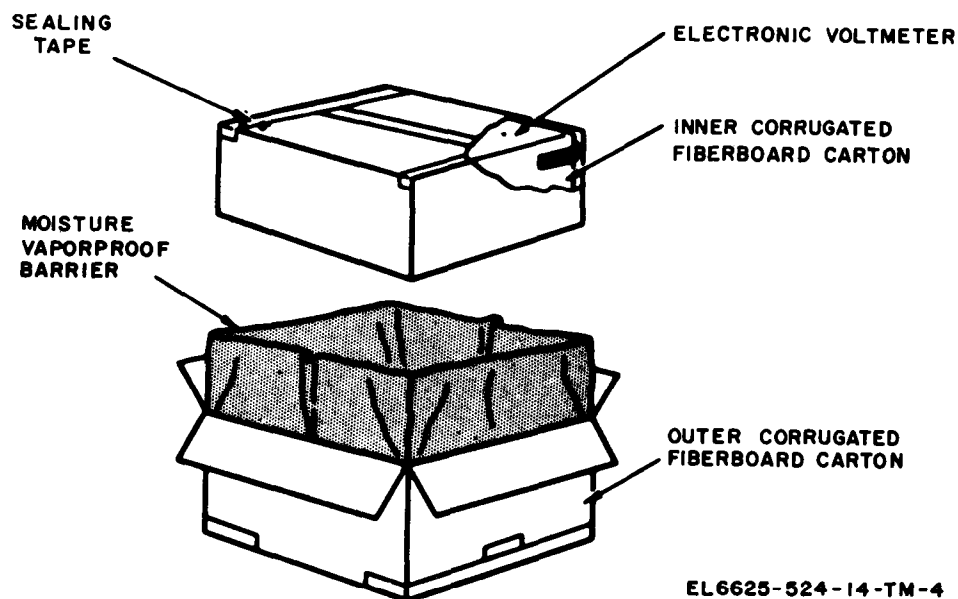

Figure 2-1. Typical packaging diagram.
*a. Packaging Data.* When packed for shipment, Voltmeter, Electronic A-N/URM - 145B is placed in a waterproof carton and packed in a corrugated cardboard box. A typical packing case and its contents are shown in figure 2-1.
*b. Removing Contents.* Perform all the procedures in (1) through (4) below when unpacking equipment.
(1) Open the outer corrugated carton and moistureproof barrier.
(2) Remove the inner carton.
(3) Open the inner corrugated carton.
(4) Remove the voltmeter.